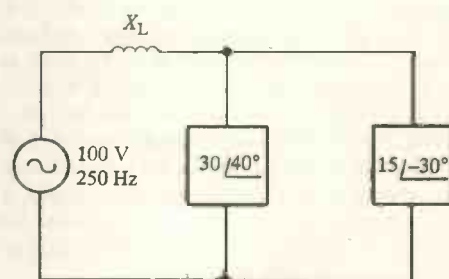

Fig. 19. Circuit with two sections in parallel.
**4. Resonance: Problem:** A circuit (Fig. 19) has two sections in parallel, with the impedances indicated. What value inductor is to be connected where shown to make the circuit resonate with the applied voltage?